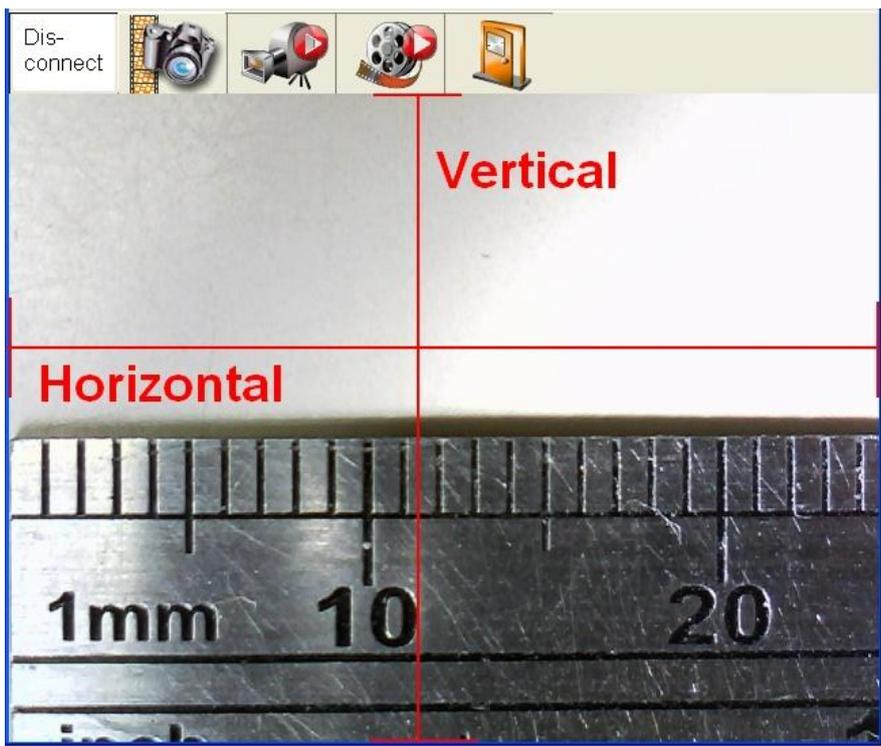

Fig.5-36 Horizontal and vertical measurement range
- Calculate the observation video image of horizontal and vertical scale. Calculate the range shown in Fig.5-36.